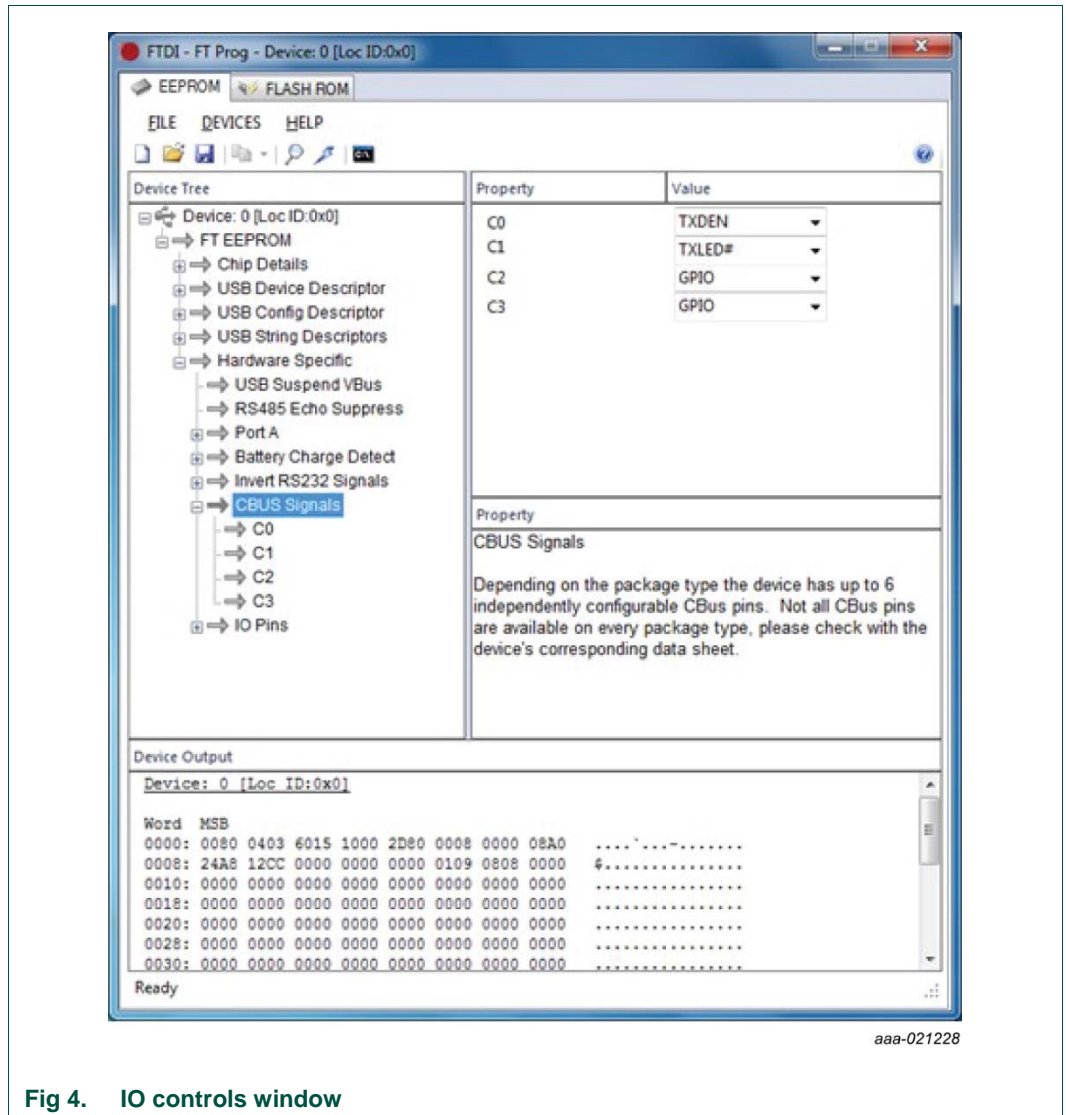

Fig 4. IO controls window
4. Update the IO controls C2 and C3 to I/O MODE – see Fig 4